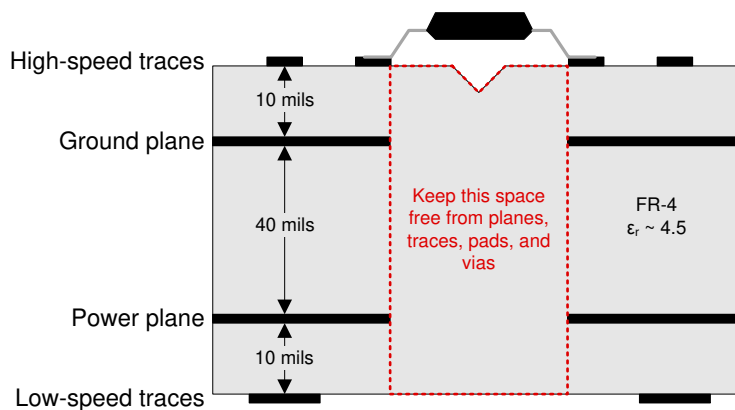

图 10-1. Recommended Layer Stack
On-chip IEC-ESD protection is good for laboratory and portable equipment but never sufficient for EFT and surge transients occurring in industrial environments. Therefore robust and reliable bus node design requires the use of external transient protection devices. Because ESD and EFT transients have a wide frequency bandwidth from approximately 3-MHz to 3-GHz, highfrequency layout techniques must be applied during PCB design. A minimum of four layers is required to accomplish a low EMI PCB design (see Figure 10-1).
- Apply 100-nF to 220-nF bypass capacitors as close as possible to the VCC-pins of transceiver, UART, controller ICs on the board (see Figure 10-1).
- Use at least two vias for VCC and ground connections of bypass capacitors and protection devices to minimize effective via-inductance (see Figure 10-1).
- Use 1-k Ω to 10-k Ω pullup and pulldown resistors for enable lines to limit noise currents in these lines during transient events (see Figure 10-1).
- Insert pulse-proof resistors into the A and B bus lines if the TVS clamping voltage is higher than the specified maximum voltage of the transceiver bus pins. These resistors limit the residual clamping current into the transceiver and prevent it from latching up (see Figure 10-1).